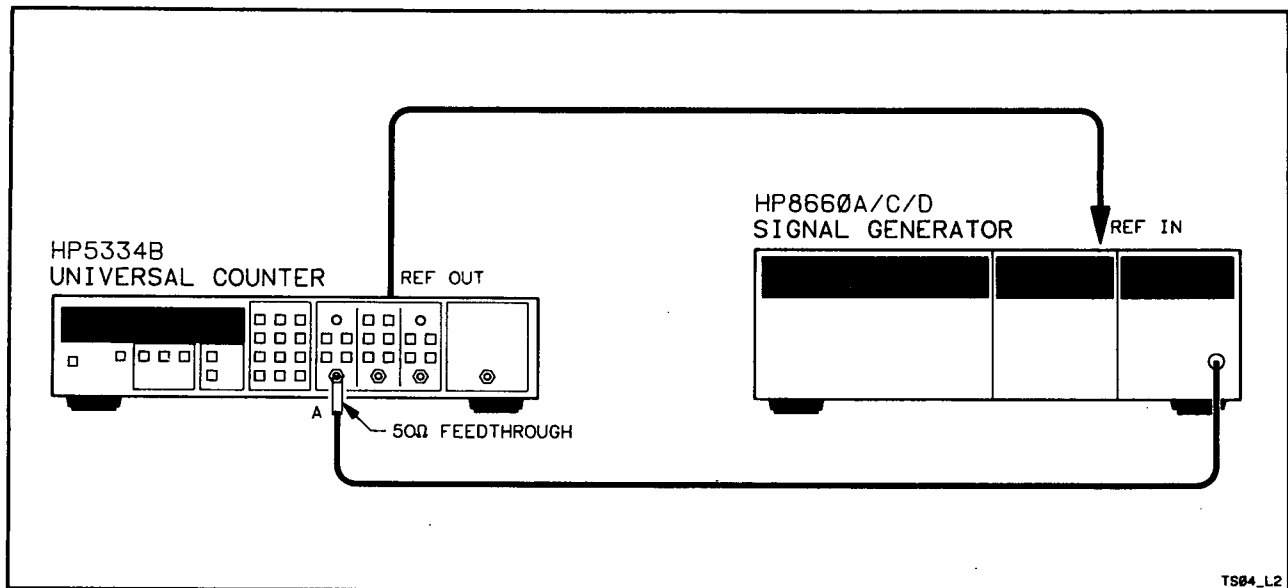

Figure 4-4. Channel A Frequency and Sensitivity Setup,
3. Connect the signal generator to the HP 5334B Input A using a 50Ω feedthrough connector as shown in Figure 4-4.